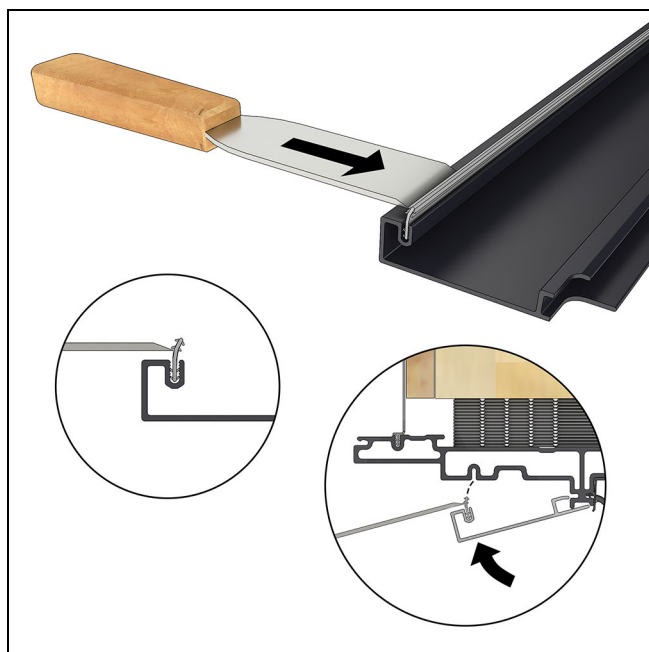

Figure 126 Use a flat bar to guide the flexible barb into the kerf.
10. Close the (E) panel and re-engage the flush bolt to lock.
11. Install the exterior covers. Start with the head jamb, first, then the sill. Push the hooked edge of the cover into the frame then rotate to engage the barbed end into the side of the frame. If necessary, seat the cover with a rubber mallet and block of wood, taking care to hit on the edge and not on the face of the cover to avoid damage. See Figure 126 through Figure 128.